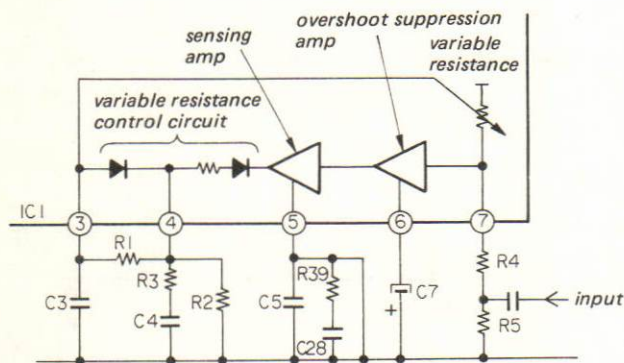

Fig. 8 (L-CH)
1) High-Level Stage (Refer to Fig. 8)
The control circuit is shown in Fig. 8. The values of C3 and C4 are half of that of Dolby B-type. Also, both attack time and recovery time take half that of Dolby B-type.